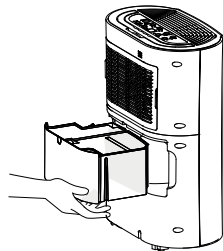

Fig. 2
2. Grasp the tank handles with both hands and remove it firmly but gently from the case (Fig. 2).